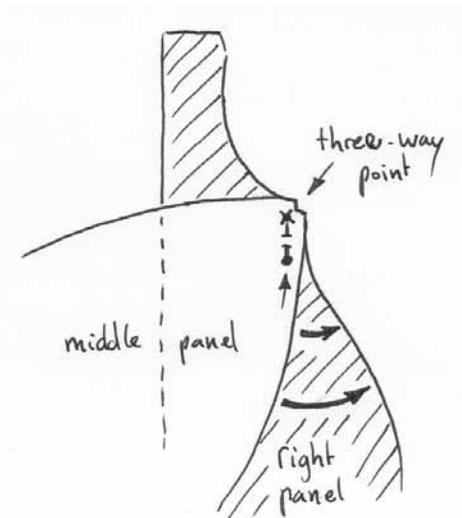

Figure 19
- A. Place the middle and right panel right sides together as shown in **Figure 19**, making sure that the two “three-way” points at the top match exactly.